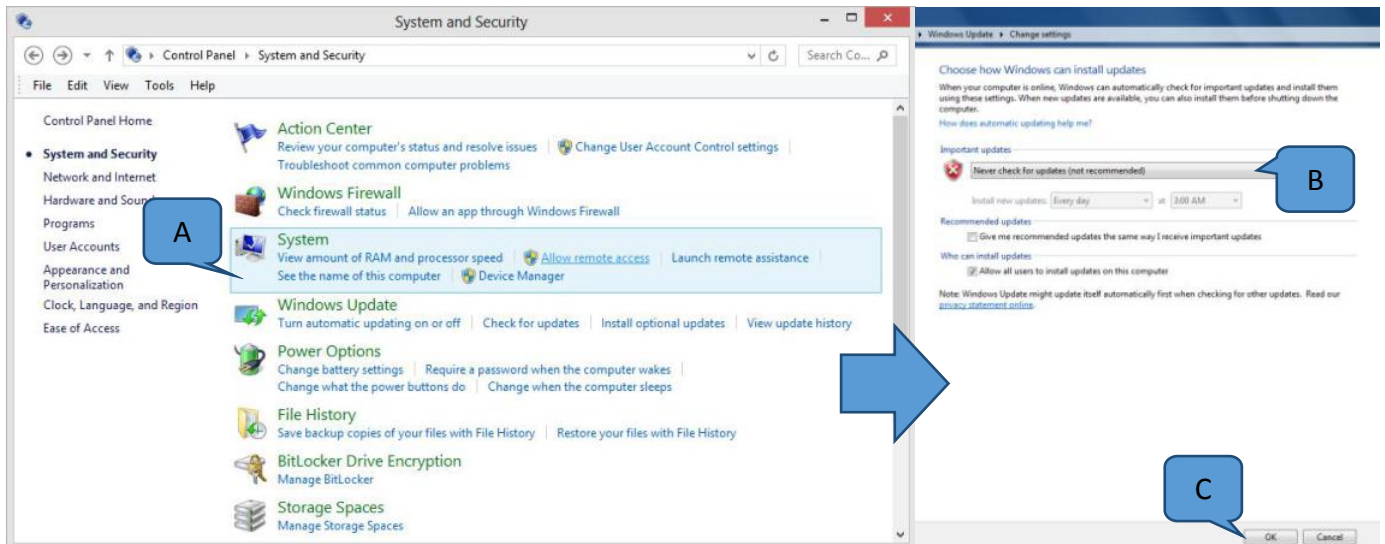

Figure 11 Window update
12. Return to “System and Security” tab and select “Turn automatic updating on or off” at “Windows Update” tab. At the Important updates tab, select the “Never check for updates (not recommended)” as Figure 11.